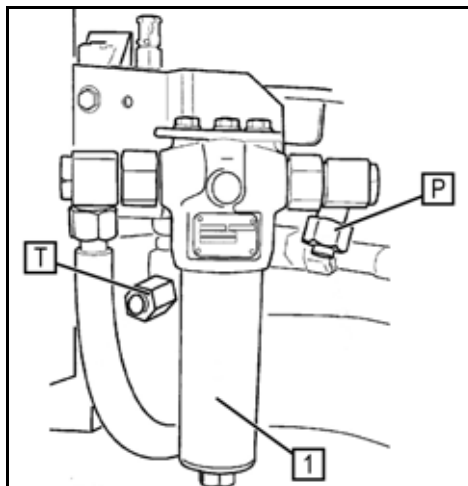

Fig. 219 Emergency oil supply
The connections are located near the pressure filter (1) (**Fig. 219**). The pressure filter is installed in the control cabinet next to the boom control block on the right side of the machine.